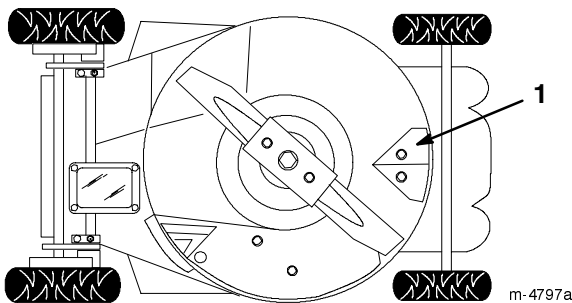

Figure 17
Keep the underside of the lawn mower housing clean. Be especially careful to keep the kickers free of debris (Fig. 17).
4. Tip the lawn mower onto its **left** side (air filter up) (Fig. 17).